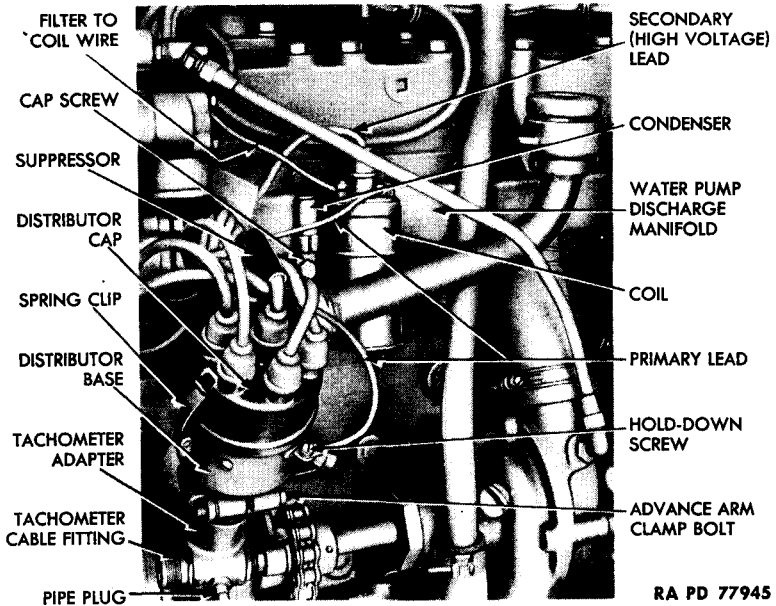

Figure 44 – Distributor and Ignition Coil Installed
(1) **DESCRIPTION** (fig. 44). An induction type coil is used to increase voltage for ignition purposes by use of secondary and primary windings on an iron core. The amperage is cut down in a ratio corresponding with the voltage increase. The coil is attached to the water pump discharge manifold on the left side of the engine adjacent to the front cylinder head, and is accessible through the floor board inset opening.
(2) DISCONNECT WIRES (fig. 44). Pull secondary lead from tower on top of coil. Remove both nuts and lock washers from low tension terminals on top of coil, and lift the three wires from the two terminals.
(3) REMOVE COIL FROM WATER PUMP DISCHARGE MANIFOLD (fig. 44). Remove the two cap screws and lock washers which hold coil to manifold, and lift coil and condenser from manifold.
(1) MOUNT COIL ON ENGINE (fig. 44). Place coil and condenser in position on water pump discharge manifold, and install the two lock washers and cap screws which attach coil and condenser to manifold.
(2) CONNECT WIRES (fig. 44). Place low tension wire from distributor on the coil terminal marked "+." Place low tension wire from
(2) REMOVE DISTRIBUTOR CAP (fig. 44). Unsnap both spring clips, and lift cap from distributor.
(1) DESCRIPTION (fig. 44). The distributor is mounted on left side of engine toward the front, and is accessible through left-hand splash shield opening. Its major components are base, drive shaft and
(1) **SET IGNITION TIMING** (figs. 44 and 46). Remove No. 1 spark plug and turn the engine over by hand until No. 1 piston comes up on the compression stroke. Continue to turn the engine slowly until the "DC" line on the flywheel registers with the timing line on the flywheel housing. Make sure the distributor points are clean, free of pits, and make good contact when closed. Using a dial indicator or wire feeler gage, adjust the points to 0.020-inch gap. Loosen cap screw and clamp bolt on the distributor advance arm. Move the pointer on the advance arm to the center of the scale, and lock in this position with screw. With the engine still on dead center, rotate the distributor in a counterclockwise direction until the points just break. Use a test light in checking this setting. Lock the clamp bolt after the setting is complete. See that the rotor brush is in position. Replace the
(2) **DISCONNECT WIRES** (fig. 44). Unsnap both spring clips, and lift distributor cap from distributor. Leave high tension wires attached to cap, and disconnect low tension primary lead wire from terminal on side of distributor.
(3) **DETACH DISTRIBUTOR** (fig. 44). Loosen advance arm clamp bolt. Remove hold-down screw, and lift distributor from tachometer adapter.
(1) **ATTACH DISTRIBUTOR TO TACHOMETER DRIVE** (fig. 44). Insert base of distributor into its boss in tachometer drive, and install hold-down screw.
(2) **TIME IGNITION** (subpar. b (1), above).
(3) **CONNECT WIRES** (fig. 44). Connect low tension primary wire to terminal on side of distributor, and install cap with attached wires on distributor.